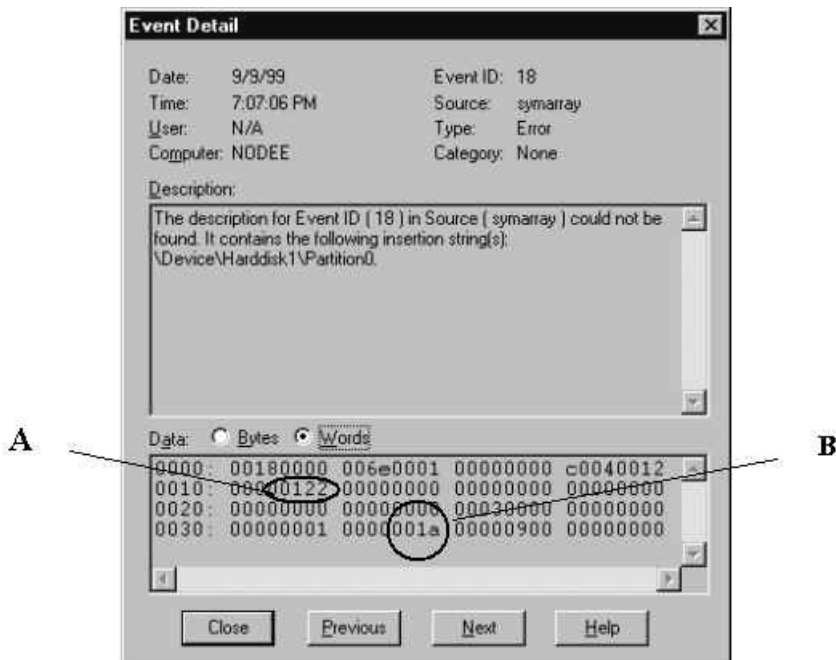

Figure 119. Event detail
2. Select the **Words** radio button to convert the bottom text from bytes to words. See Figure 119.